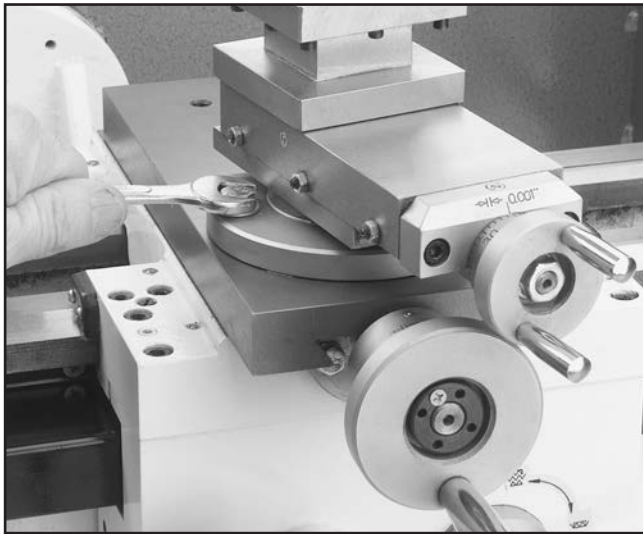

Figure 58. Removing compound slide bolts.
1. Use a 12mm wrench to remove the two bolts that secure the compound slide to the cross slide. See **Figure 58**.